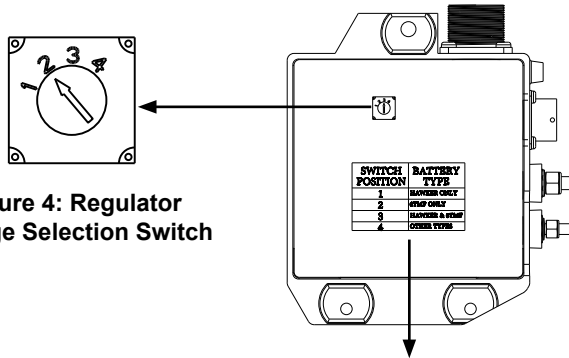

Figure 4: Regulator Voltage Selection Switch
1. If applicable, turn regulator over and make sure set point of switch at bottom of regulator is appropriate for type of battery used in vehicle. If necessary, change switch set point. See Figure 4 and Table 1 for voltage set point options.